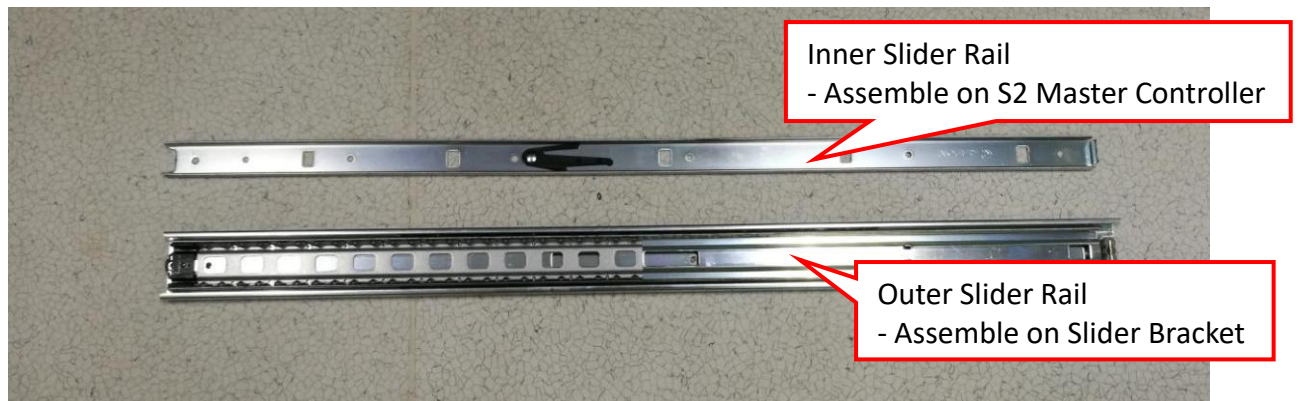

Figure 9 Slider Rail
6. Prepare & separate Right Slider Assembly Rail Kit into two portion as shown in Figure 9.